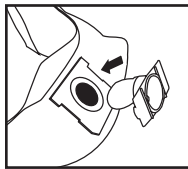

FIGURE 24
32. Position the inlet deflector with the opening facing the left or the right side of the filter bag. Slide the filter bag collar over the inlet deflector, matching the notches of the bag collar to the tabs on the inlet deflector. Bag will only fit properly one way. **FIGURE 24.**